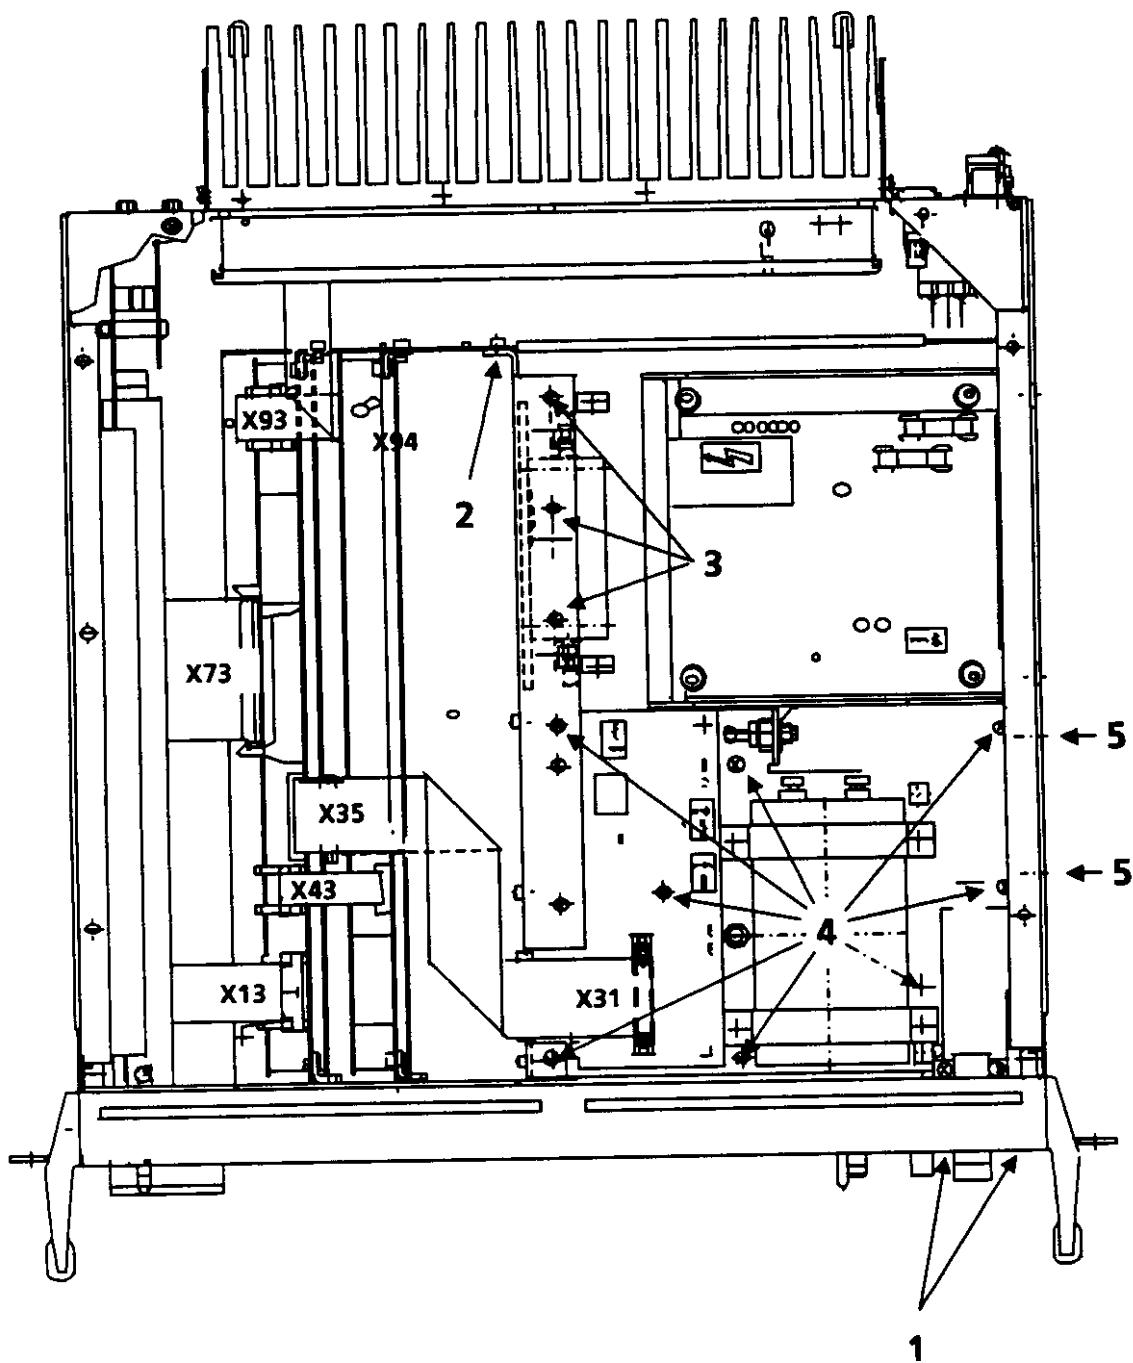

Fig. 4.6 Replacement of Regulator
(See Fig. 4.6)
7. On front panel remove small cover plate of the power switch (1, Fig. 4.6) after undoing two Phillips screws (M1.6).
9. Open three cable clips (3) and undo three Phillips screws M3.
10. Undo eight fixing screws (4) on base plate and two on right-hand side panel (5).